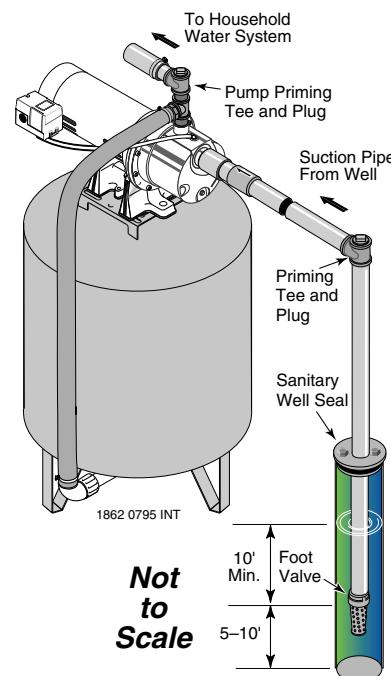

**Figure 1: Driven Point Installation**
## WELL POINT (DRIVEN POINT) INSTALLATION (Figure 1)
3. Use the fewest possible fittings (especially elbows) when connecting the pipe from the well point to the pump suction port. The suction pipe should be at least as large as the suction port on the pump (include a check valve if your pump is not equipped with one – see Figure 1). Support the pipe so that there are no dips or sags in the pipe, so it doesn't strain the pump body, and so that it slopes slightly upward from the well to the pump (high spots can cause air pockets which can air lock the pump). Seal the suction pipe joints with teflon tape or a teflon based pipe joint compound. Joints must be air- and water-tight. *If the suction pipe can suck air, the pump cannot pull water from the well.* If one well point does not supply enough water, consider connecting two or three well points to one suction pipe.